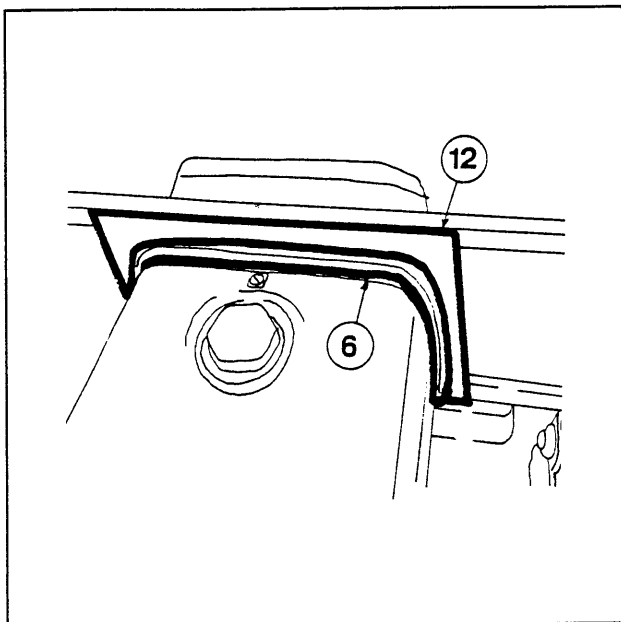

Figure 11
24. Take the hood shield (12) and slide 180 degree O-rubber (6) onto the inside edge where it contacts the hood. Position the shield around the hood and screw it to the outside of the cab using the 1/4"x3/4" self-tap screws provided. (see Figure 11)
25. Take the 27"x40 1/2" piece of floormat (13) and position against the top of the operator foot platform. Cut the floormat to fit snugly around